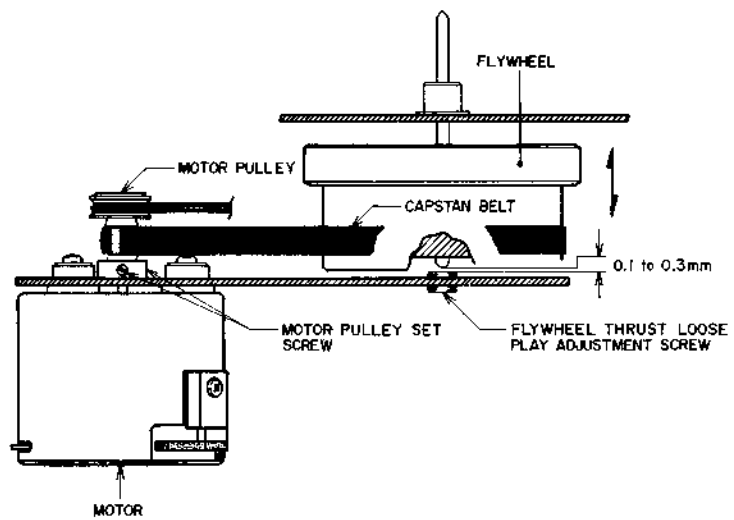

Fig. 27 Flywheel Thrust Loose Play Adjustment
5. FLYWHEEL THRUST LOOSE PLAY ADJUSTMENT (Refer to Fig. 27)